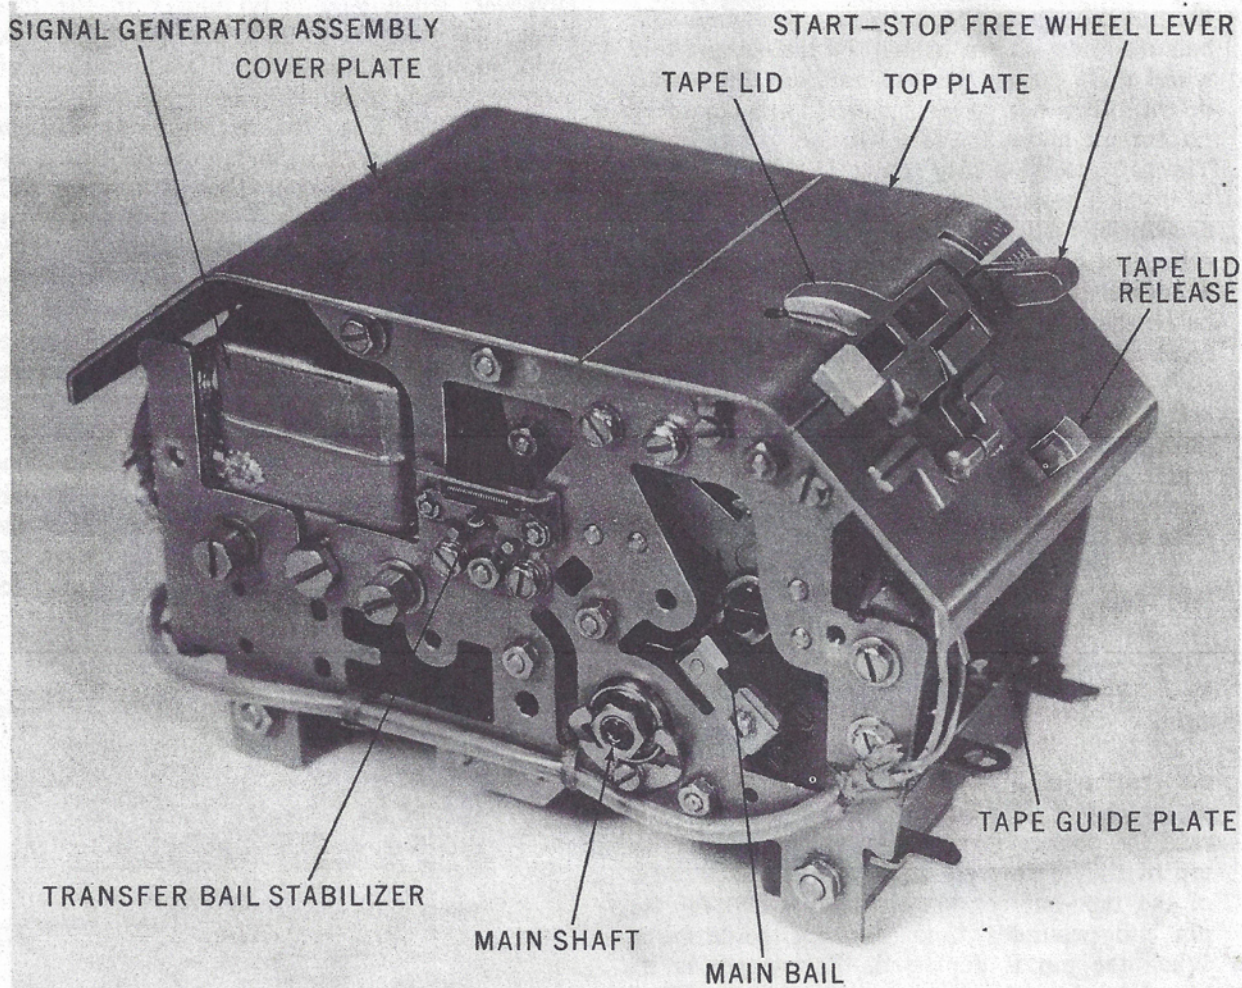
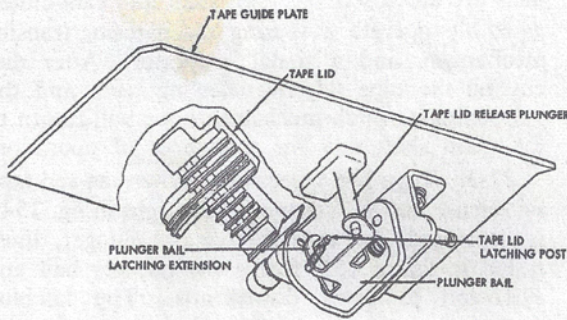
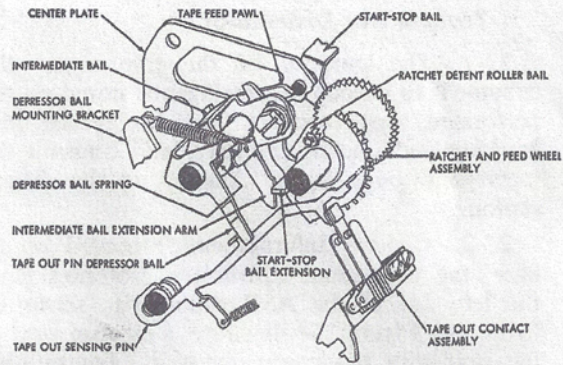

Figure 154. Transmitter distributor, front view with cover removed.
Figure 155. Tape lid mechanism, bottom view.
Figure 156. Freewheeling and tape-out mechanism.
27-2. **General Information.** Mounted on its base, the transmitter distributor protrudes from the left side of the ASR cabinet, as shown in figure 81. Figure 154 illustrates a closeup view of the unit with the cover removed. Transmitting from previously prepared tape, the component is exclusively for on-line service: there are no off-line functions. The typing unit monitors the transmitter distributor transmission in line operation. The transmitter distributor is electrically isolated from the basic teletypewriter circuits in the (K) mode of operation. In the (K-T) and (T) modes, it operates only when the SEND key lever on the keyboard has been depressed and the transmitter distributor tape-out, start-stop, and tight tape con-
27-3. **Tape Lid Operation.** When the red tape lid release button, (shown to the right in fig. 154) is depressed, the tape lid release plunger, illustrated in figure 155, forces the plunger bail and extension to pivot downwards. The latching post and the lower portion of the tape lid also rotate under tension of the spring connected to the latching post and the bail. This raises the portion of the tape lid which is above the tape guide plate.
27-5. The tape lid is closed manually by pressing it down over the positioned tape. When the tape lid is closed, the latching post shown in figure 155 rotates counterclockwise over the end of the plunger bail latching extension. Under spring tension, the latching extension is pulled under the post to latch the tape lid.
27-6. **Freewheeling Feed Wheel.** When the start-stop lever, shown in figure 154, is pushed to the extreme left position, the start-stop bail, illustrated in figure 156, is rotated clockwise. The bail extension, shown behind the ratchet and feed wheel shaft, pushes the feed pawl and the ratchet detent roller out of engagement with the feed ratchet and allows the feed wheel to rotate freely. The bail extension also contacts the intermediate bail which rotates clockwise, permitting the torsion-spring-loaded depressor bail to rotate. This causes the tape-out pin depressor bail extension to depress the tape-out pin so that it is flush with or below the tape guide plate, permitting free movement of the tape under the tape lid. Since the start-stop and tight tape contacts are opened in establishing conditions for freewheeling tape feed, the clutch magnets are deenergized and the transmitter distributor is in the idle condition. Positioning of the tape must be done manually. Release of the start-stop lever to its OFF position returns the tape feed pawl and the detent roller into contact with the ratchet wheel and releases the tape-out sensing pin. This conditions the equipment for operation when the start-stop lever, as shown in figure 154, is again moved to the right.
27-7. **Tape-Out Switch Mechanism.** The tape-out sensing pin, shown in figure 156, is located slightly forward of the five sensing fingers which read the perforated tape. An extension near the top of the sensing pin raises the center swinger of the tape-out contact assembly whenever the pin end protrudes from the tape guide plate. When the pin is depressed, the swinger is released to close the lower set of contacts. When the tape is in the unit and the tape guide lid is closed, the tape holds the sensing pin in the de-
automatic transmission through the transmitter distributor. Of course, the main power switch must be on and the keyboard motor must be supplying power to the main shaft of the transmitter distributor. The start-stop freewheel lever, shown in figures 154 and 157, is in the OFF (center) position, and the first character of a message tape has been placed over the sensing fingers and the tape lid closed.